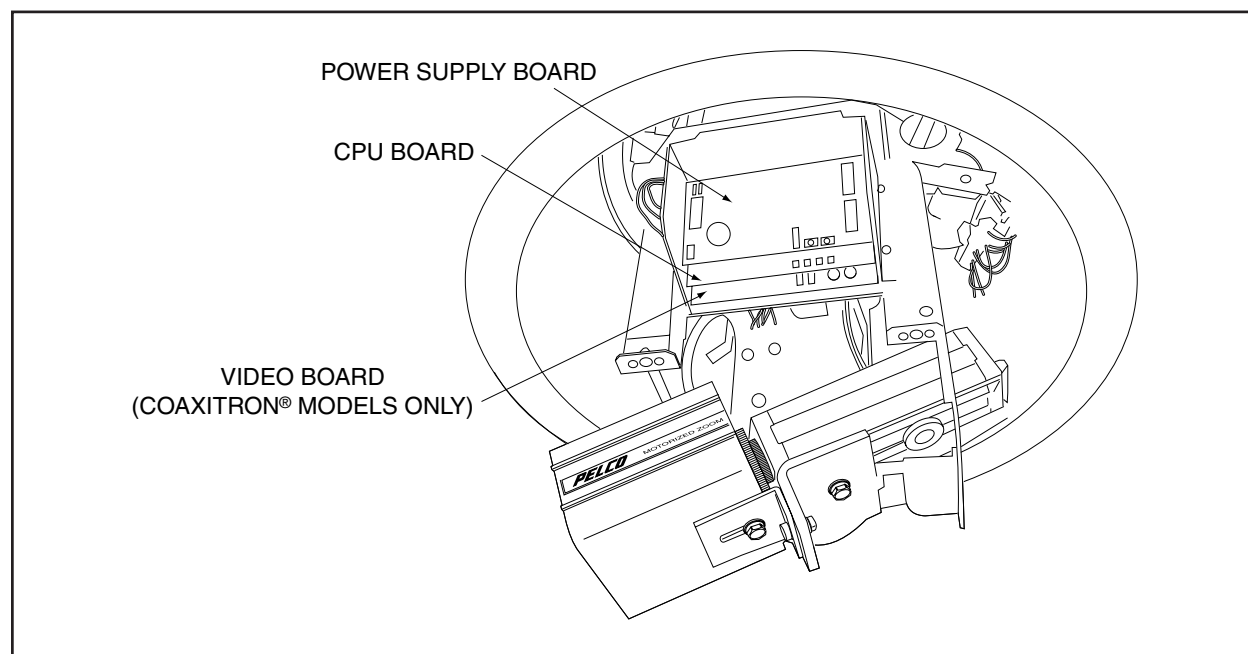

Figure 1. PC Board Locations
1. **JP3** is set at the factory in the RS-485 (422) position. Leave it in this position.
2. **JP5** and **JP6** are both set in the UNTERM (unterminated) position. If the receiver is using RS-422 and is the last physical receiver in the chain, then the setting must be moved to the TERM (terminating) position (refer to Figures 1 and 2).
4. **SW1** receiver address switch is for those units whose firmware supports either D- or P-type protocol. Refer to Figures 1 and 2 for the switch location. Refer to Table A to set the receiver address for units that use D-type protocol. Refer to Table B to set the receiver address and baud for units that use P-type protocol.
R26 20k ohm potentiometer sets the lens voltage. It is set at the factory at 10 volts. Refer to Figures 1 and 3. Refer to Section 4.2 for more information.
R27 20k ohm potentiometer sets the lens voltage. It is set at the factory at 10 volts. Refer to Figures 1 and 3. Refer to Section 4.2 for more information.